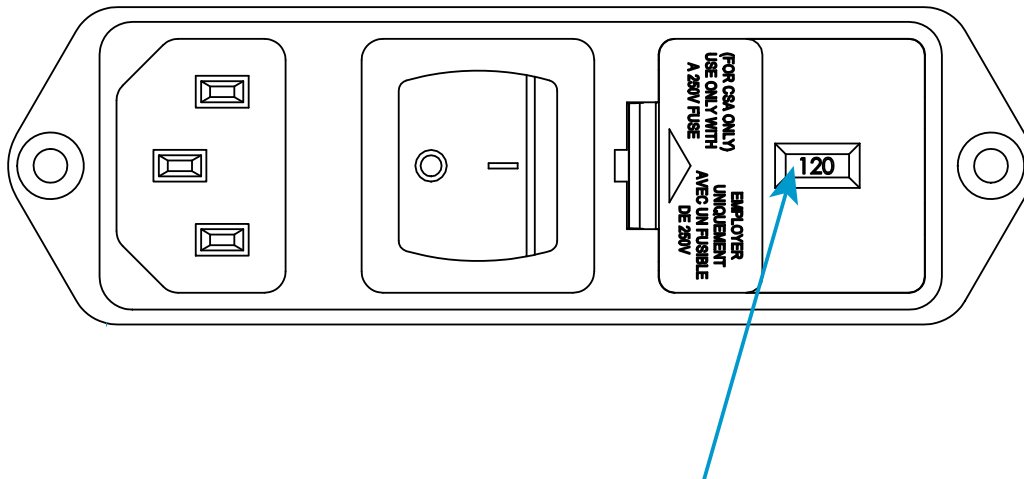

Figure 4. Power input connector with voltage setting
2. Inspect the power input connector and refer to Figure 4 on page 36. The indicated voltage in Figure 4 is 120V.
7. Re-install the fuse holder into the connector. Ensure that the indicator pin now indicates the correct input voltage. See Figure 4 on page 36 for reference.